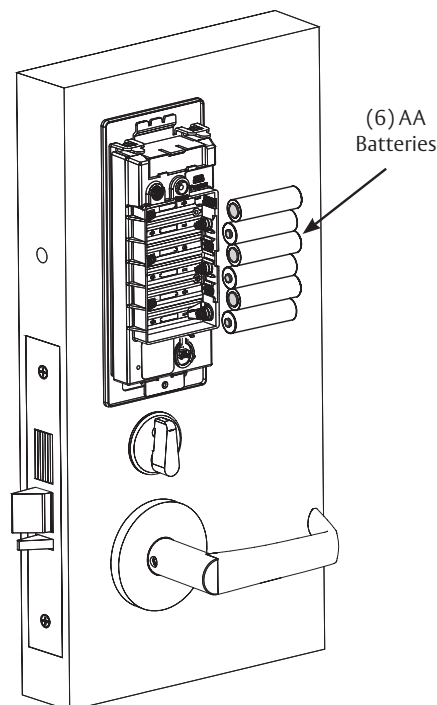

Fig. 25
- a. Place six (6) "AA" alkaline batteries in compartment, being careful to align polarity properly. (Figure 25)